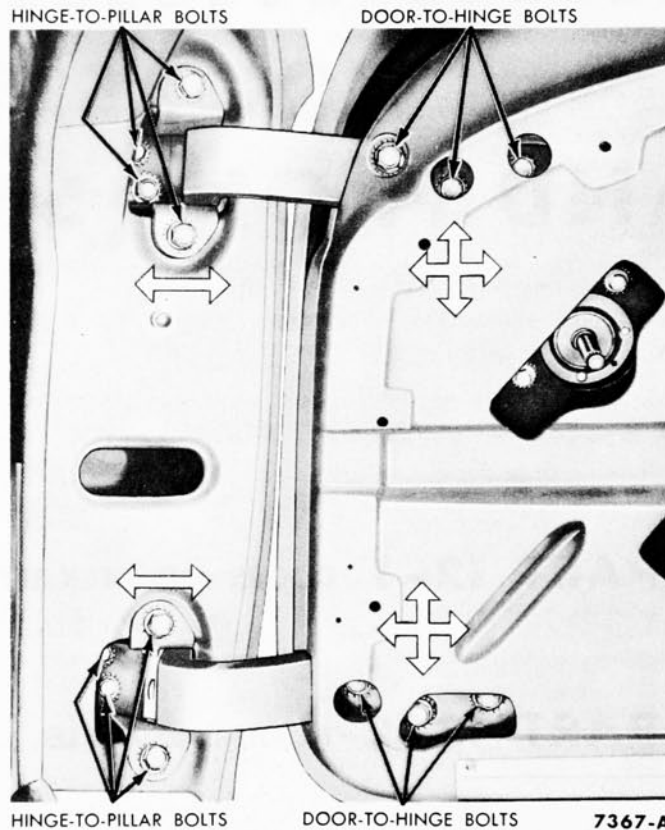

FIG. 1—Door Hinges
misalignment conditions. The elongated holes where the hinges attach to the pillars provide in and out movement of the front door to obtain flush fits with the front fenders (Fig. 1).
The bolt holes where the doors attach to the hinges are enlarged. This permits a circular movement of the front door to obtain proper spacing all around the door (Fig. 1).
1. Consult Fig. 1 to determine which hinge bolts must be loosened